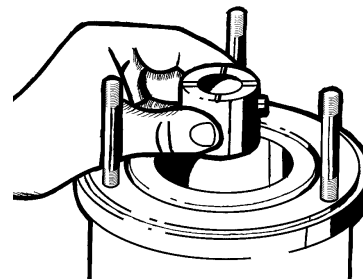

Figure 4-4
2. Install the cartridge bearing (#16C) into the motor with the face grooves facing up, refer to figure 4-4. Make certain the screw head slides into the